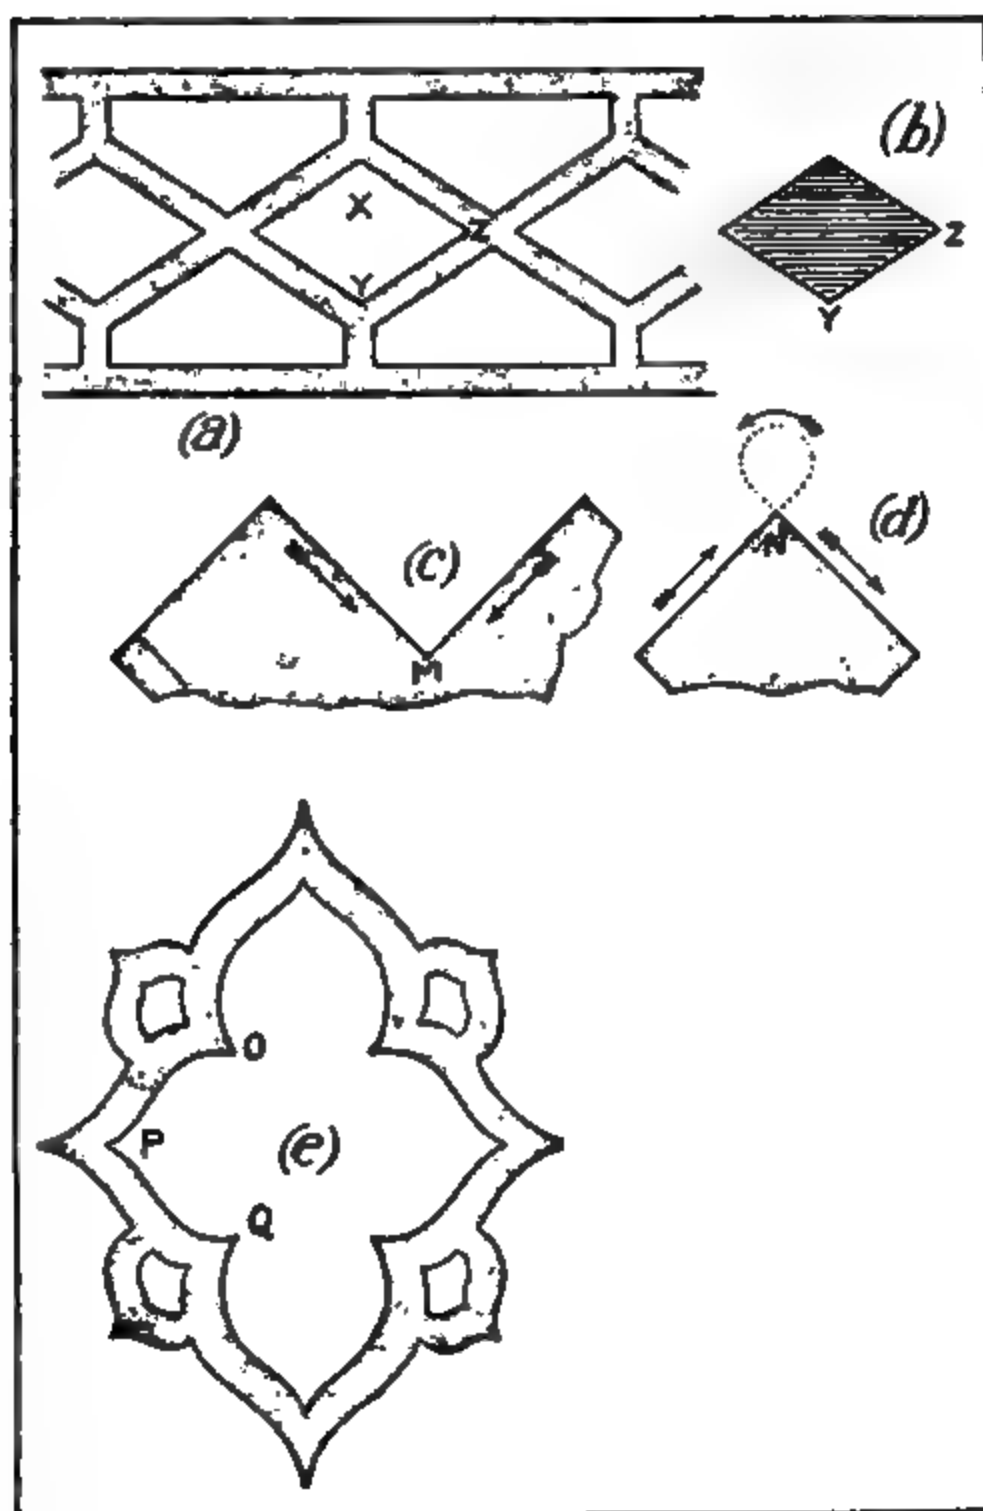

Fig. 136.—Hints on cutting fretwork.
*Hand-frames.*—Fret-cutting may be done by hand or with a treadle-saw. In the first case a hand-frame (Fig. 136, c) is required. The one illustrated has a screw in the handle and also one on the upper arm, by means of which both clamps may be raised or lowered. This means that the saw-blade can be tightened to any tension. Cheaper frames are made without these screws, but the better ones are worth the slight extra outlay.
*Cutting-table.*—For hand-sawing, a cutting-table (Fig. 136, *f*) is essential. This is a plain beech board, about 8 in. by 5 in., having a V opening in front, and at the back holes and slots by means of which the board may be clamped to a dining-room or kitchen table. It is better that the worker should make his own board (say about 12 in. by 9 in., as Fig. 136, *g*), since those purchased are on the small side. Two iron cramps hold it in position.
*Drills.*—Bradawls should never be used for boring entrance holes in thin fretwood, and, whether for treadle or hand-sawing, a drill of the Archimedean type must be added to the outfit. Fig. 136, *d*, shows the common Archimedean drill, which bores at each downward stroke of the bobbin. In the case of Fig. 136, *e*, the drilling action is continuous, the balance weights keeping the point revolving while the bobbin is drawn upwards for the next stroke.
Fig. 136.—(a) Fretwork saw-blades. (b) Teeth of saw, magnified. (c) Hand fret-saw frame. (d) Archimedean drill. (e) Continuous-action drill. (f, g) Cutting table.
This is done with the Archimedean drill already mentioned (Fig. 136, *d* or *e*). The drill is held vertical, the left hand grasping the handle, while the bobbin is held in the right fingers. One thrust is often sufficient to pierce a thin board. The drill-point must not be pulled out, or it will break, but be withdrawn while running the bobbin up and down the stock as in boring. Work should be clamped to the bench or to a waste board when drilling. Holes are drilled near a point or angle which will form a convenient starting-place for the saw. After the wood is drilled it is well to sand-paper the back of the wood, as the drill leaves ragged edges which prevent the work from turning smoothly on the cutting-table.